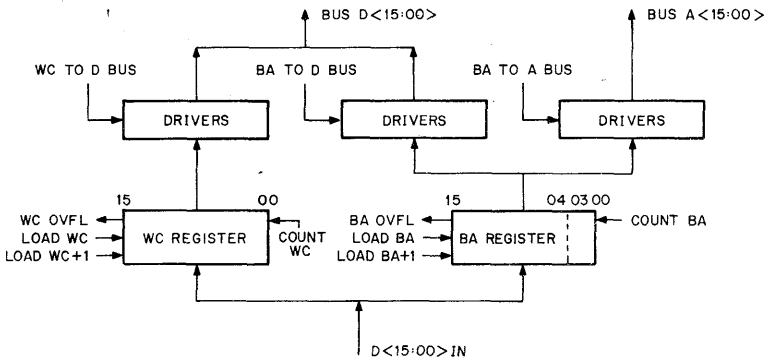

Figure 2-19 M795 Word Count and Bus Address (block diagram)
A simplified block diagram of the M795 module is shown in Figure 2-19. Both the word count (WC) and bus address (BA) registers consist of 16 flip-flops. These flip-flop registers can be loaded by placing data on the 16 data line inputs common to both registers and asserting the appropriate loading signal. There are four independent loading signals: WC high byte, WC low byte, BA high byte, and BA low byte. Each of the outputs of the 16 bits in the WC register are connected to a set of DEC 8881 UNIBUS drivers. The contents of the WC register can be gated to the data bus when the appropriate gate signal is activated. The BA register also has a set of UNIBUS drivers connected to each output so that the register contents can be gated to the data bus. Note that the driver outputs of both the WC and BA registers are wire OR'd together. In addition, the BA register has a set of drivers with independent outputs to allow it to drive the address bus.